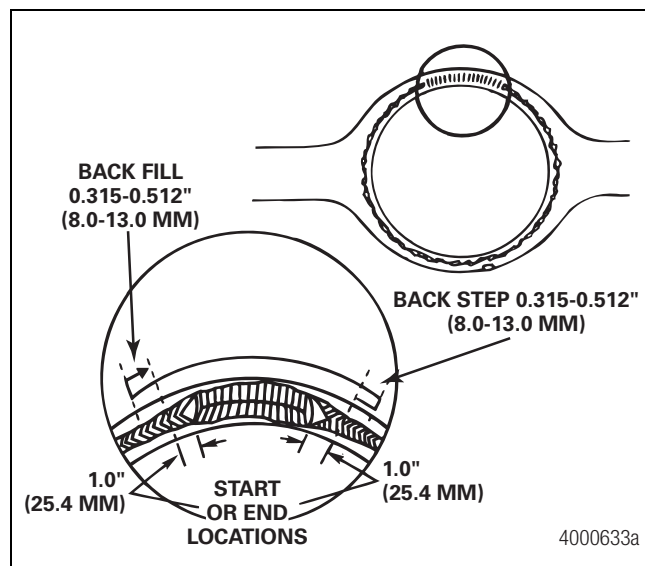

Figure 3.12
2. Beginning at one of the indicated start locations, one-inch (25.4 mm) into the old weld, back step 0.315-0.512-inch (8-13 mm) to prevent a cold start. Figure 3.12.
4. Back fill the end of the weld 0.315-0.512-inch (8-13 mm) to eliminate craters. Figure 3.12.